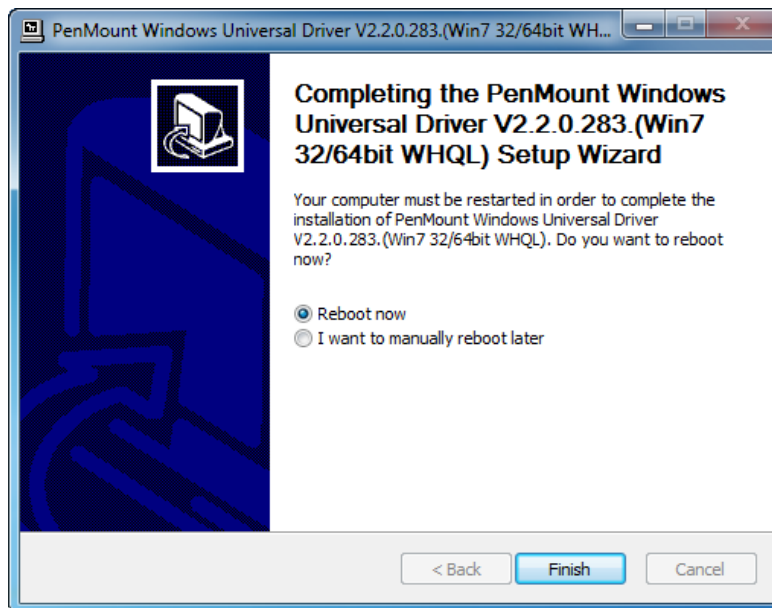

Figure 8-16: Touch Screen Driver Update Complete
Step 12: When the installation is complete, click FINISH to exit setup. (Figure 8-16).